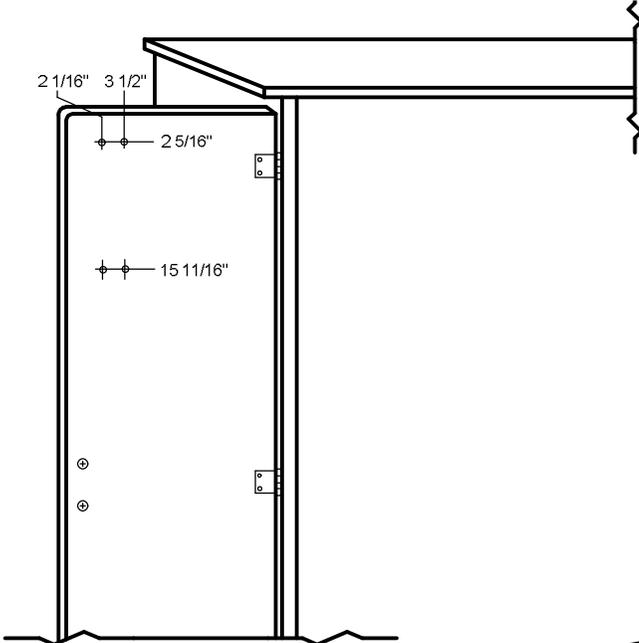

FIG. 2
B. CAM LOCK - LOCATE THE CENTER OF YOUR LOCK HOLE USING THE PRINT SHOWN ON (FIG. 2). CLAMP A PIECE OF SCRAP TO THE INSIDE OF THE DOOR WHERE THE DRILL BIT WILL EXIT, TO AVOID CHIPPING. USING A 3/4" BIT, DRILL OUT THE LOCK HOLE ALL THE WAY THROUGH THE DOOR. REMOVE SCRAP PIECE AND INSERT THE LOCK INTO THE HOLE. ATTACH THE NUT, CAM, CAM WASHER AND CAM SCREW, AS SHOWN (FIG 3).